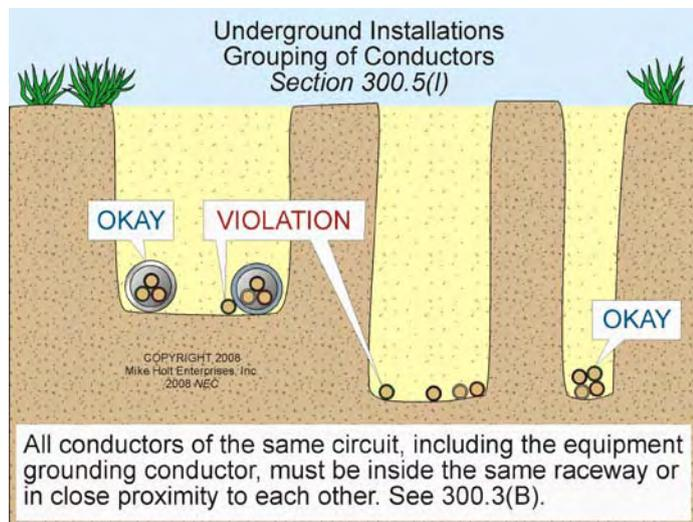

Figure 300-14
(I) Conductors Grouped Together. All conductors of the same circuit, including the equipment grounding conductor, must be inside the same raceway, or in close proximity to each other. See 300.3(B). **Figure 300-14**